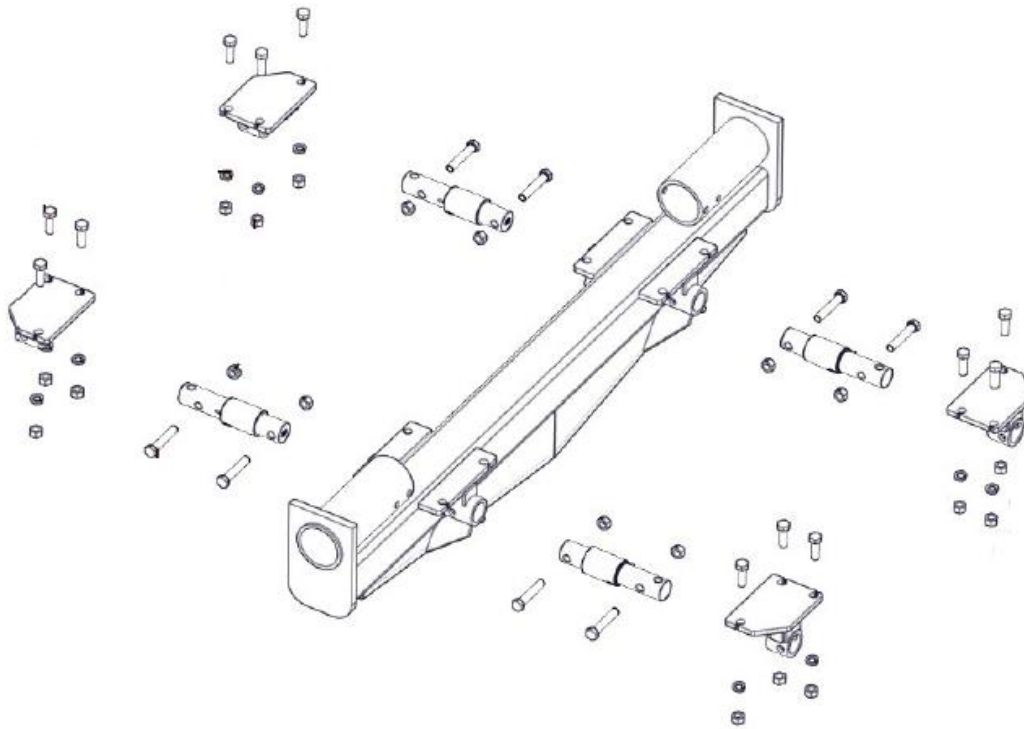

Fig. 3
3. Install load cell assemblies as depicted in Figure 3. Leave the hardware loose, do not tighten.
Refer to Fig. 3